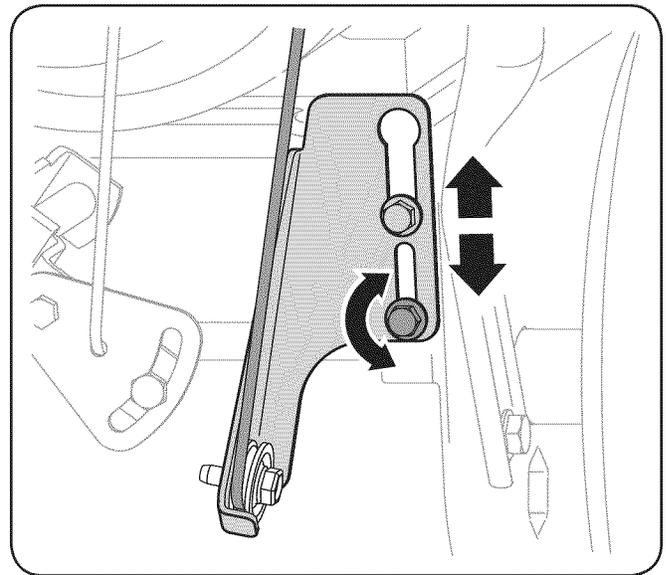

Figure 6-5
1. Loosen the lower hex screw on the drive cable bracket. See Fig. 6-5.